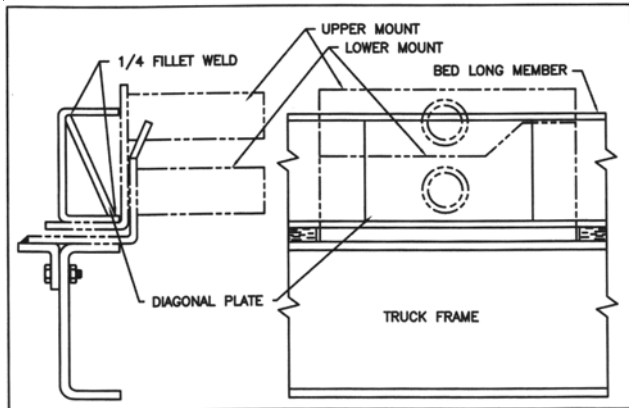

**Figure 11: Vertical Plate Assembly**
9. Lower the truck bed onto the truck frame, positioning it exactly as it will be mounted when lowered. Weld the vertical plate assembly of the tail hinge to the long member of the bed with the pin inserted in the tail hinge assembly (see Figure 11). Insure that the vertical plate assemblies are installed correctly as shown. It may be necessary to install some washers as spacers between the pin bushings and the vertical plates to help center the body and keep it from moving from side to side.